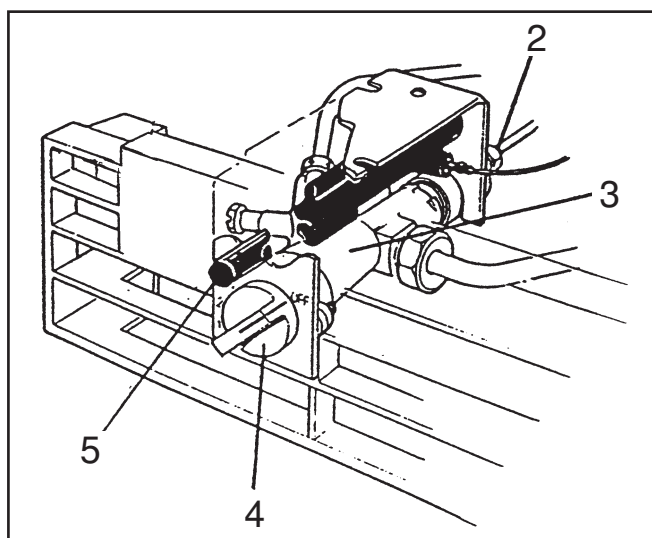

Fig. 14
16. STARTING THE REFRIGERATOR (see fig. 14)
The gas control knob (4, fig. 14) has four positions, marked 'Off', and 3, 2 and 1, representing three sizes of flame- Maximum, Medium and Minimum. The amount of cooling produced in the refrigerator will depend on the size of flame used.
When operating on gas, ice will be made more quickly if the control knob (4, fig. 14) is temporarily turned to the Maximum flame position (No. 3).